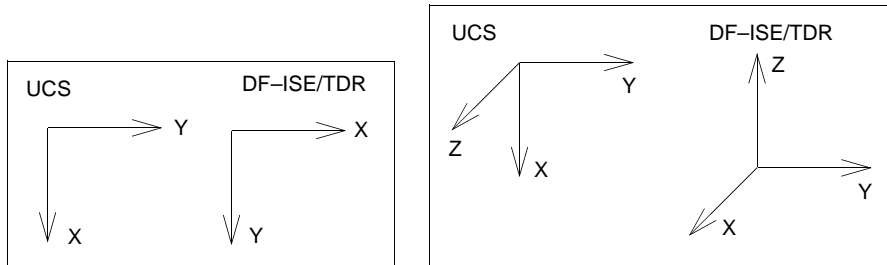

Figure 95 (Left) Axis orientation in 2D and (right) axis orientation in 3D
**NOTE** The stresses and strains in the output file are according to the UCS, unless you explicitly request to save in the DF-ISE coordinate system by using the math `coord.dfise` command. The UCS is the same as the Sentaurus internal coordinate system, but differs from the DF-ISE/TDR coordinates. Therefore, it is important to note the directions of the axes in 2D and 3D (see Figure 95).
The axis directions in DF-ISE/TDR coordinates are different in 2D and 3D in the UCS. Figure 95 shows the axis orientation in 2D and in 3D. Consequently, the values of the stress and strain components change.